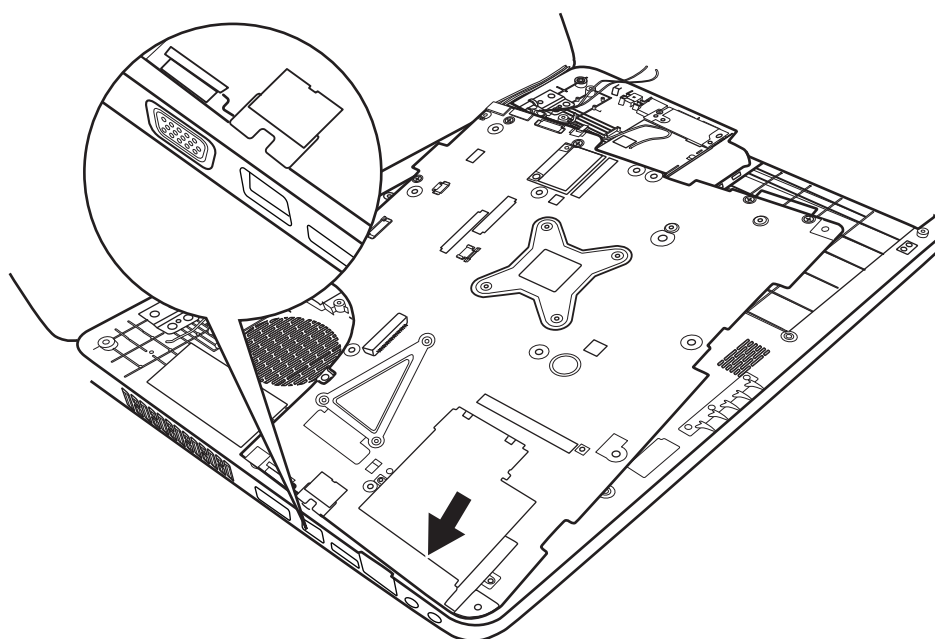

Figure 4.22 Aligning the motherboard connectors
2. Align the connectors on the left side to their corresponding holes in the logic lower assembly as shown in Figure 4.22.